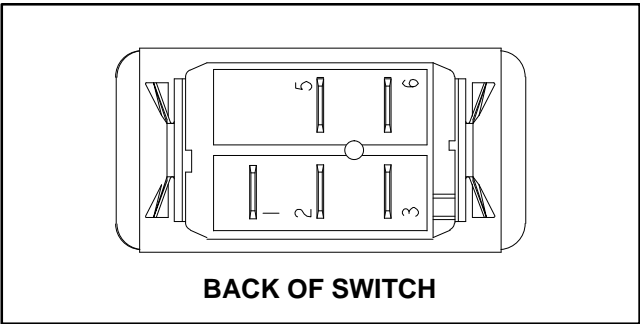

Figure 46
4. The windshield washer/wiper switch terminals are identified in Figure 46 and the switch circuits are shown in Figure 47. With the use of a multimeter (ohms setting), the switch functions may be tested to determine whether continuity exists between the various terminals for each switch position. Verify continuity between switch terminals.